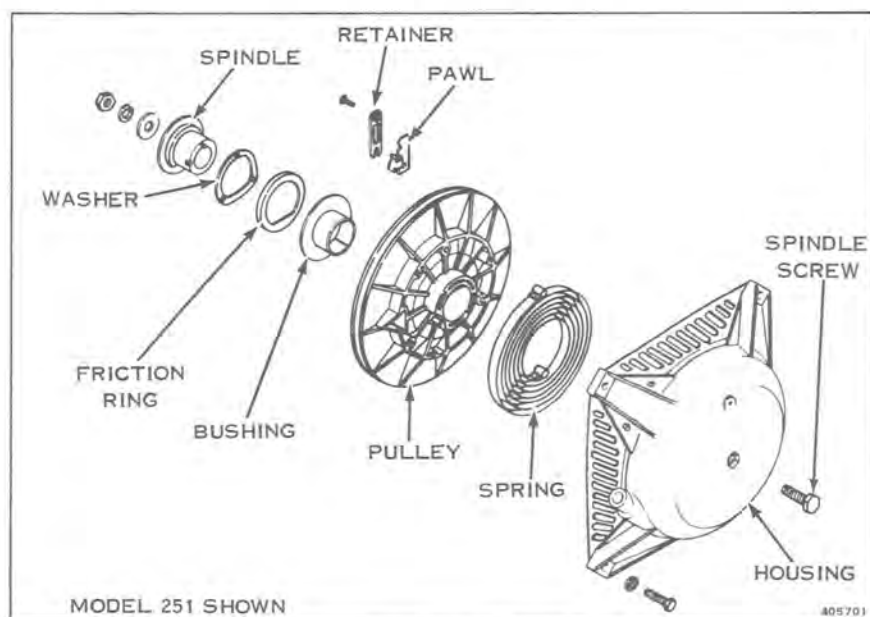

Figure 8-3
- Remove starter spindle screw, and remove all components of starter pulley spindle assembly (see Figure 8-3).